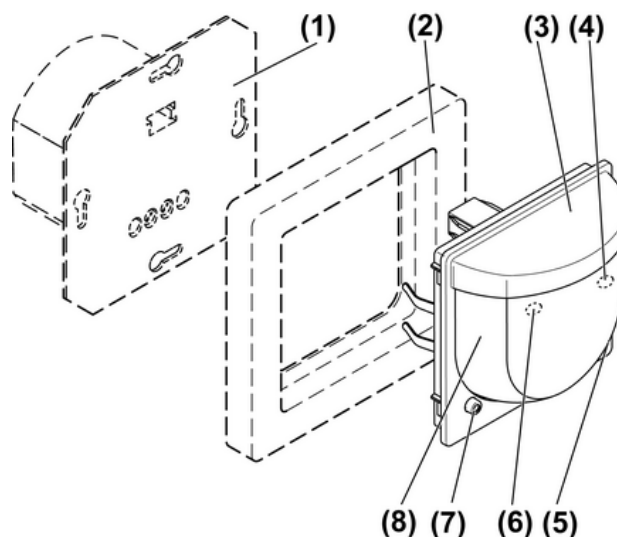

Figure 1
Behind the lens (8) are a red (4) and a yellow (6) LED (Figure 1) for indicating different operating states.